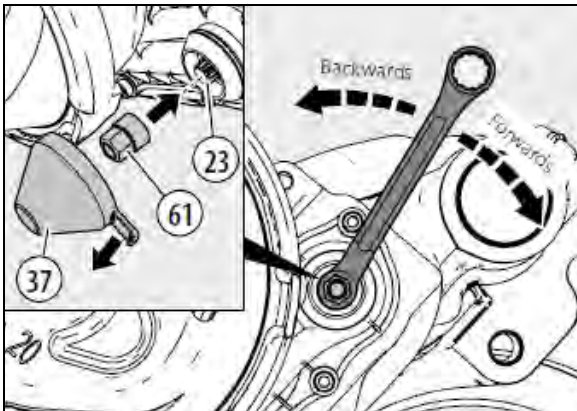

FIGURE 41: REMOVE CAP, INSERT NEW BRAKE PADS, SET THE STARTING GAP
7. Pull off the adjuster cap (37) using the tag, taking care not to lose the shear adapter (61) (see Figure 41).